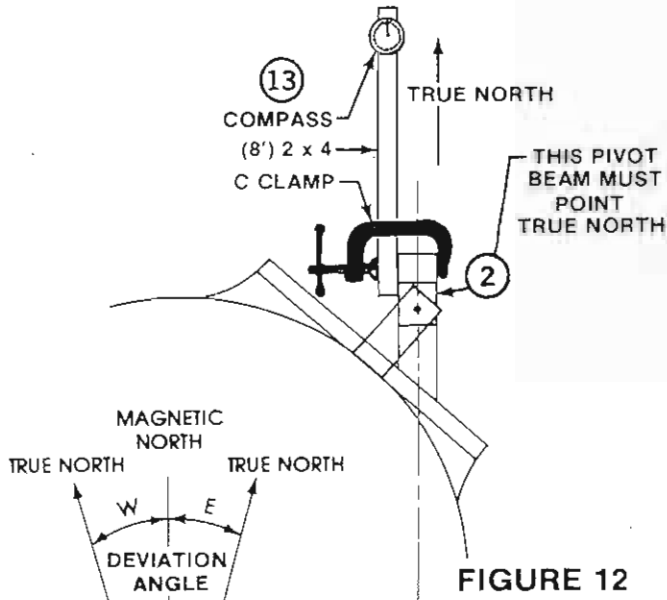

FIGURE 12
**STEP 1.** Place Protractor (1) squarely on Pivot Beam (2) as shown in Figure 12 and set Polar Axis Angles as described below.
**STEP 2.** Make Course Adjustment (3) of Polar Axis Angle. Remove Bolt (4) and tilt Pivot Beam (2) to hole in Latitude Head (5) that will put Fine Adjustment (6) in range of Polar Axis Angle. (Fine Adjustment will provide plus or minus 7° of angle.) Do not fully tighten Bolt (4).
**STEP 3.** Set exact Polar Axis Angle of antenna site on Protractor (1). Turn Fine Tune Drive Screw (7) to set angle and tighten Bolt (4) after all setting is complete.
**STEP 4.** Clamp a straight 8 foot wood 2 x 4 to the side of the Pivot Beam (2). Set compass (13) on end of 2 x 4 and loosen Azimuth Locking Bolts enough that antenna will rotate. Rotate antenna until 2 x 4 aligns with true North. Add or subtract magnetic deviation as required in your area. Magnetic deviation is available at your local airport. Tighten azimuth locking bolts. See figure 12.